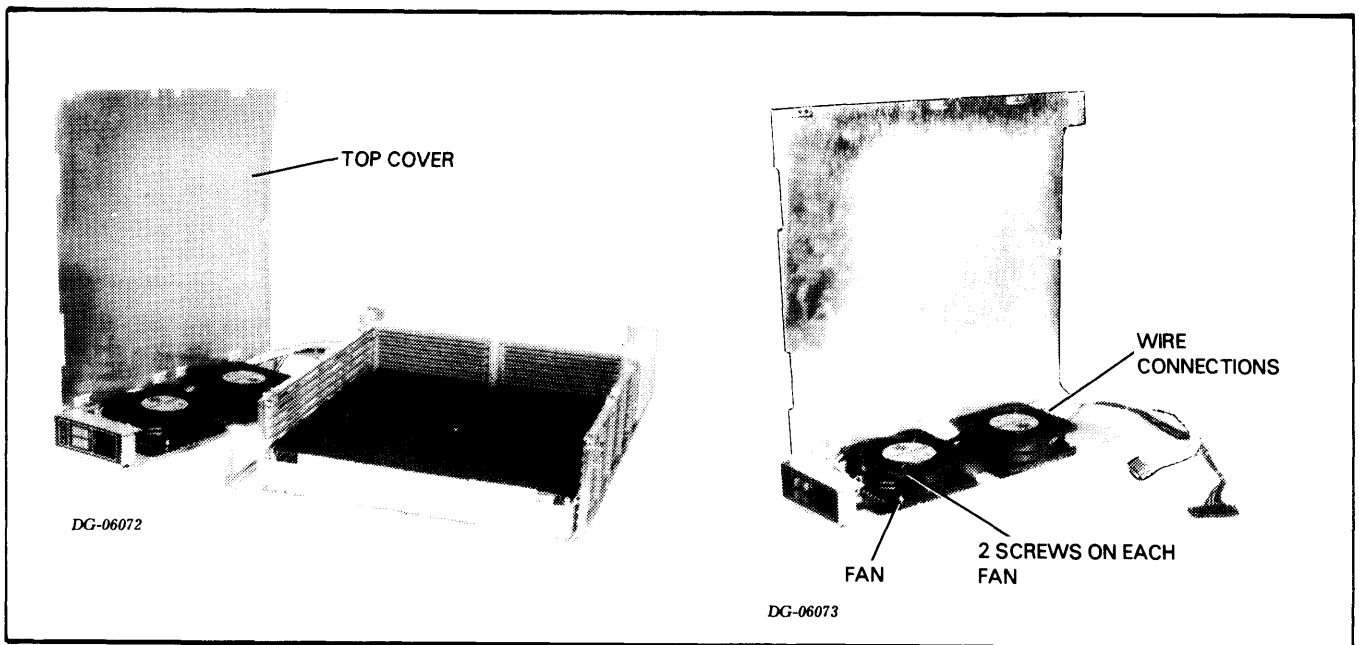

Figure 14.7. REMOVING THE TOP COVER, DISCONNECTING THE FAN MODULE FROM A 5-SLOT CHASSIS
8. Lift the top cover up and over to the left so that it lies on its side. (See photo below, Figure 14.7.)